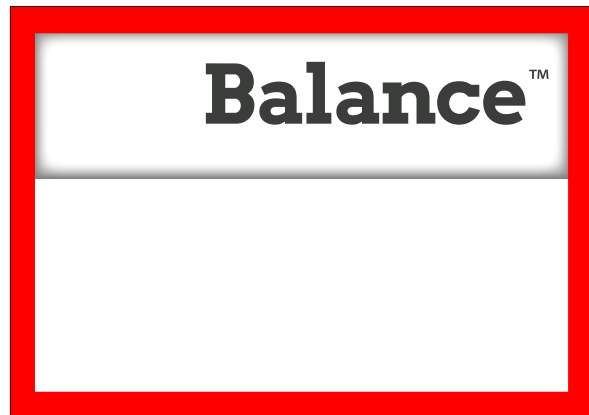

Figure 38 - ProBalance Corrective Weight Amount
2. The balancer stops and automatically positions the wheel at the ProBalance correction location. Now attach the specified corrective weight amount (figure 38) at the 12 o'clock position in the center of the rim channel (as displayed in graphic on wheel balancer).